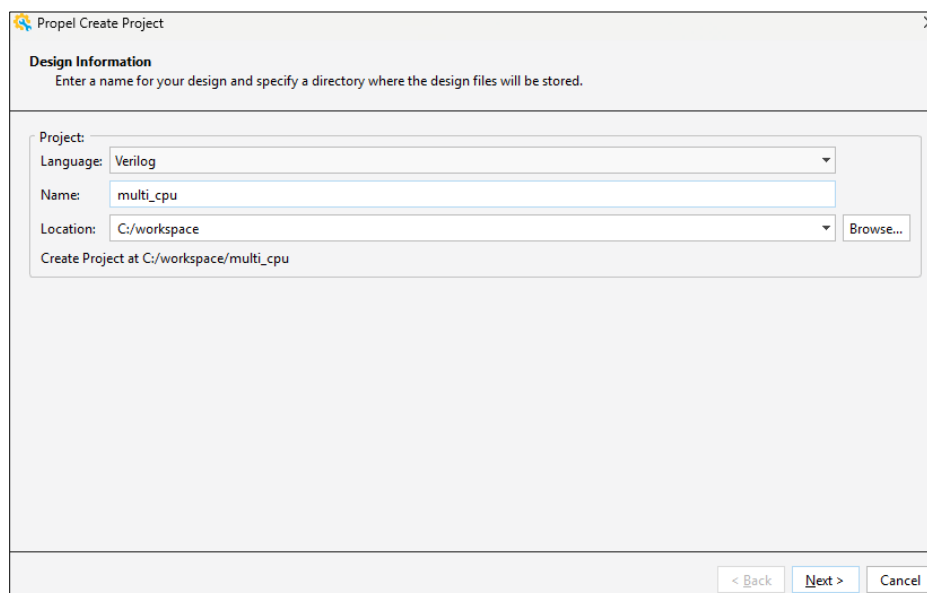

Figure 4.3. Create Project – Design Information
- Click **Next** to proceed (Figure 4.3).